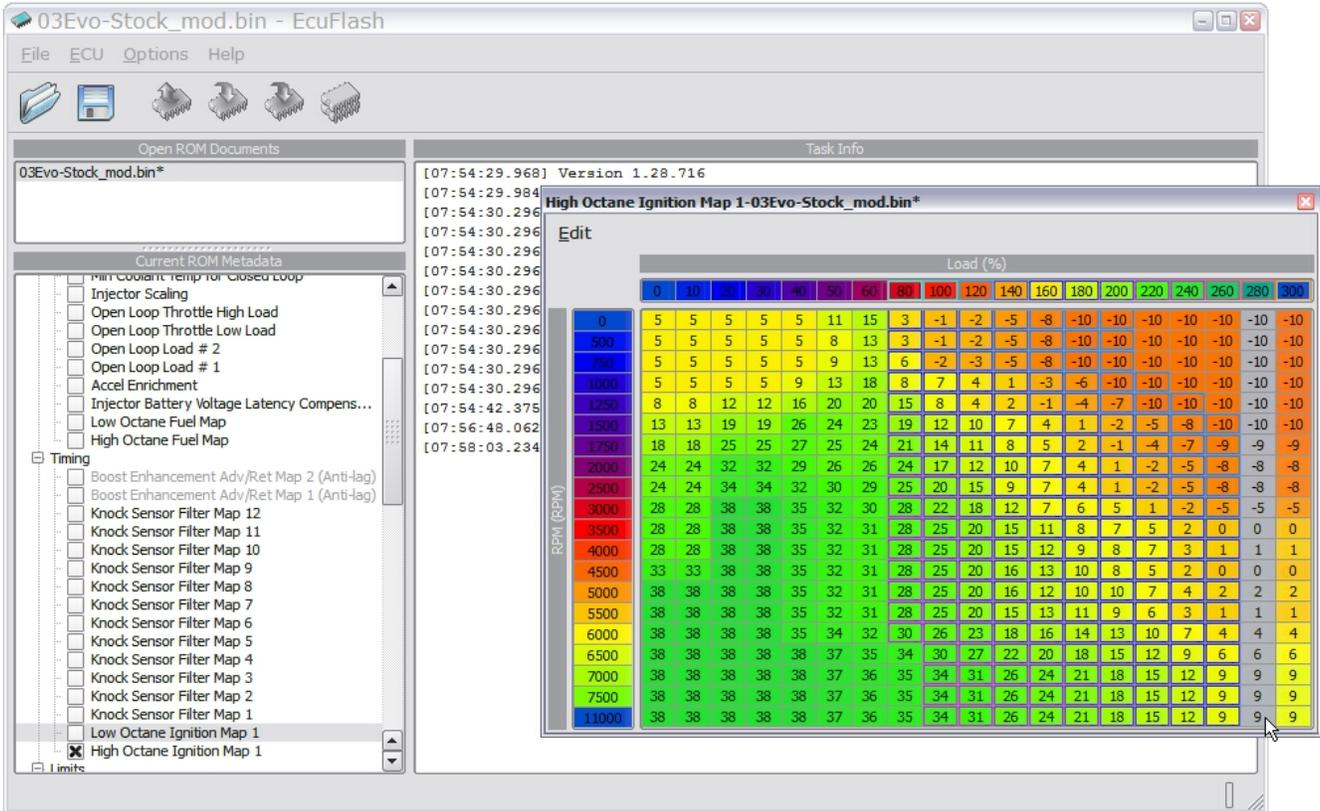

Figure 18, modified 2003 Evolution VIII ECU High Octane Ignition Map, paste into 280% Load column
- o Paste selected cells into the 280% Load column (figure 18)
- o The map should now look like the map in figure 18. The 260%, 280%, and 300% Load columns now contain the same values.